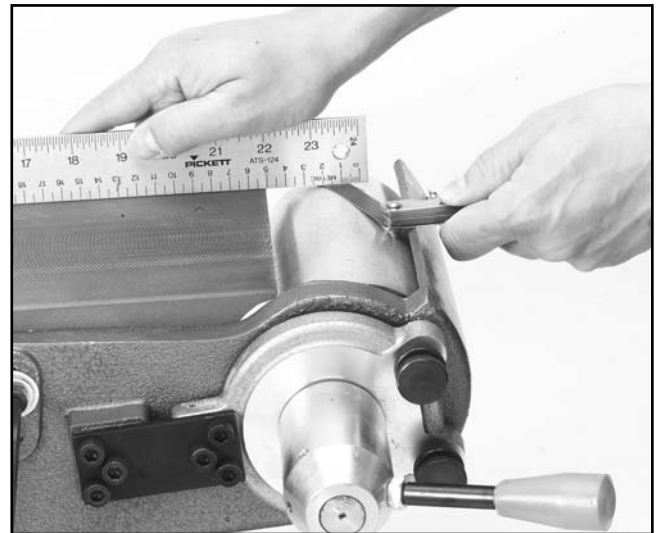

Figure 15. Measuring platen to roller parallelism.
1. Insure that the upper roller is parallel to the platen (there is no adjustment for the lower roller). This adjustment is easier to accomplish with the belt removed. Remember that the roller is crowned, and a rough alignment of the roller to the platen was already described in the section entitled Belt Platen. To determine parallelism for proper tracking, measure at a point approximately .5" from the ends of the roller. Use a straight edge on top of the platen and extend it over the roller. **See Figure 15.**